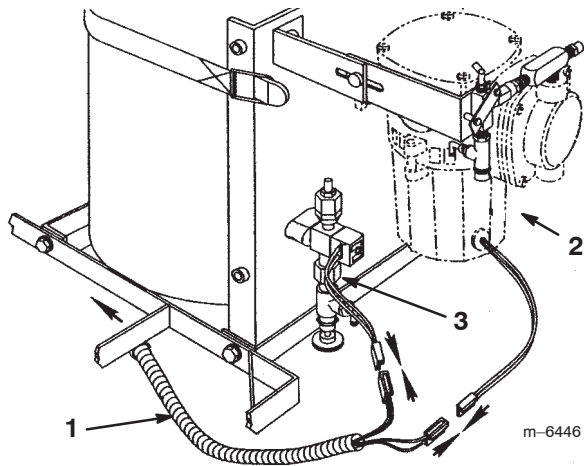

Figure 29
8. Locate the wiring harness connectors furnished with the vehicle for the foam marker and make the connections to the compressor and the solenoid located at the foam tank/compressor assembly (Fig. 29).
Note: The connectors are located along the right side frame rail strapped to the vehicle harness, where the tank/compressor is installed. Both of the plug connections are identical (Fig. 29).